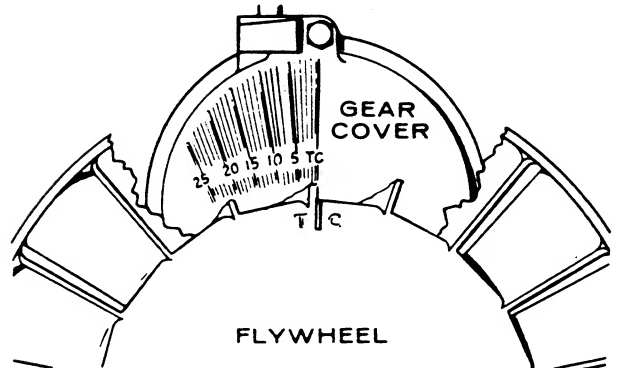

FIGURE 9. TIMING MARKS
2. Remove blower housing to expose timing marks on top of gearcase cover and flywheel (Figure 9).
4. Connect an ohmmeter or a continuity test lamp set across the ignition breaker points. Touch one test prod to the coil lead terminal (screw B Figure 9).